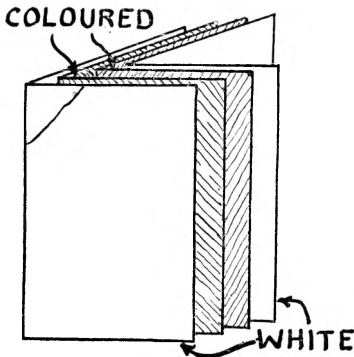

Fig. 14
2. Insert them one inside the other, as shown in fig. 14 so that a white is on the outside, then two coloured sheets, and then the last white on the inside of the coloured ones.
3. Trim one end of the endpapers square with the back fold and mark this true corner by means of a pencil mark across it as in figs. 14 and 15.